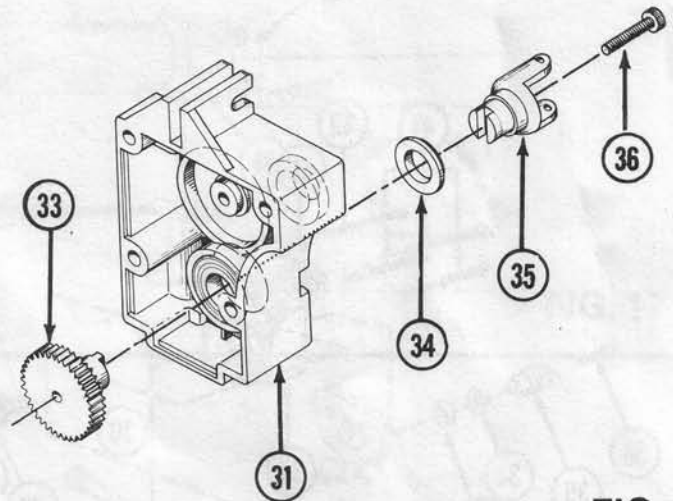

FIG. 13
15. Install output gear (33) into lower bearing seat of right half of gearbox (31). Fig. 13.
16. Slide outride spacer (34) onto U-joint outride (35) with the flanged side away from U-joint yoke. Fig. 13.
17. Install U-joint outride (35) into lower bearing seat of right half of gearbox (31). Rotate U-joint outride (35) until interlocked with output gear (33). Fig. 13.
18. Secure the two together with a 4-40 x 1/2" socket head screw (36) threaded in through the U-joint outride (35) into the output gear (33). Fig. 13.
19. Repeat steps 13 through 18 with left half of gearbox (37).